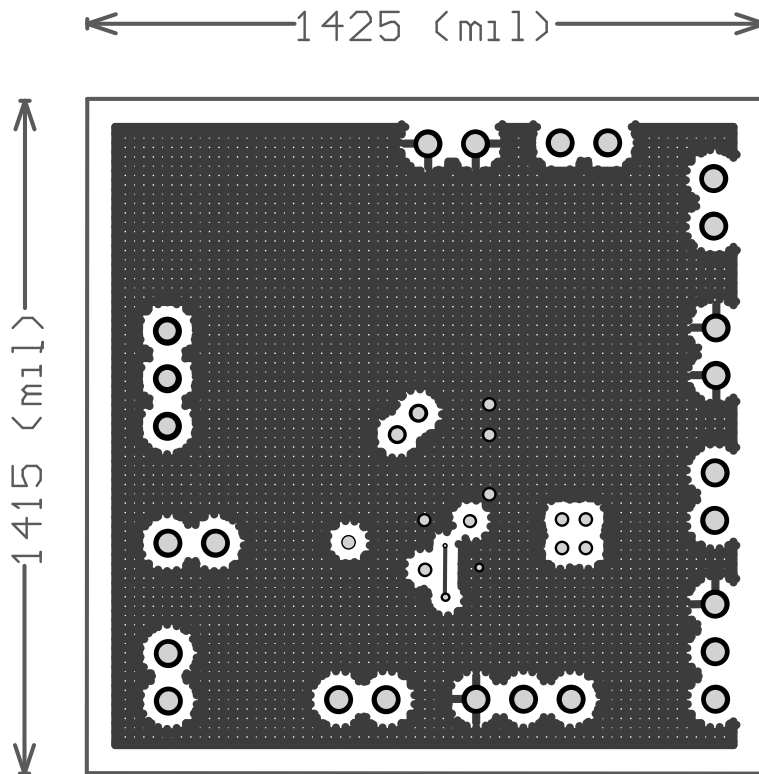

Figure 2. LM3508 Evaluation Board Layout Mid Layer 1
- EN is a 3-position jumper (see the bottom right jumper in Figure 2). The middle pin connects to EN of the device. The top pin of the EN header connects to PGND (device disabled) and the bottom pin connects to the VIN (device enabled).
- DIM is a 3-position header (see Figure 2). The middle pin connects to DIM of the LM3508. The left pin of the DIM header connects to PGND (current source off). The right pin connects to VIN (current source on with max LED current of 20 mA). Drive DIM with aPWM waveform ( $V_H > 1.1V$ ,  $V_L < 0.5V$ ) at up to 100 kHz to adjust the LED brightness.
- 2 3 4 LEDs is a 3-position header (see Figure 2). Leave open to configure the board for four series LEDs. Place a jumper across the top and middle pin to short D3 and D4 (2 LED solution). Place a jumper across the bottom and middle pin to short only D4 (3 LED solution).